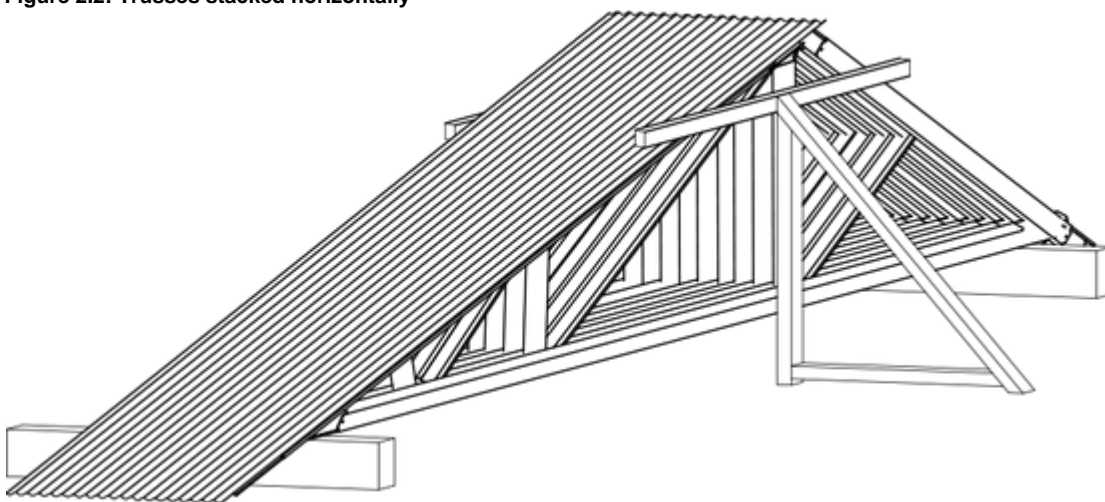

Figure 2.3: Trusses stacked vertically
2. If the trusses are stored vertically as shown in **Figure 2.3**, they should be supported at the designed support locations or bottom chord panel points, and in a manner that will be prevented from tipping or toppling.